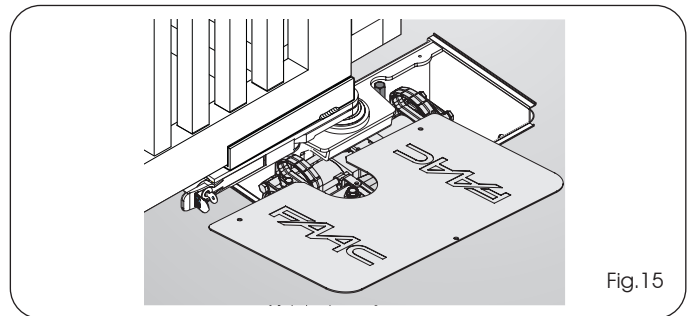

Fig.15
- 2) Secure the cover of the load bearing box with the supplied screws (Fig.15;16).